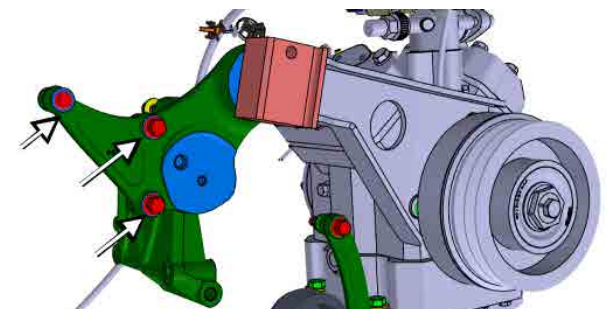

FIGURE 12
18. It may be necessary to also loosen the bolts (3 bolts) on the bracket shown on FIGURE 12.
19. Snug all previously loosened bolts i.e. bolts **C** & **E**, compressor mounting bolts at the base and 3 bolts indicated with arrows on FIGURE 12.